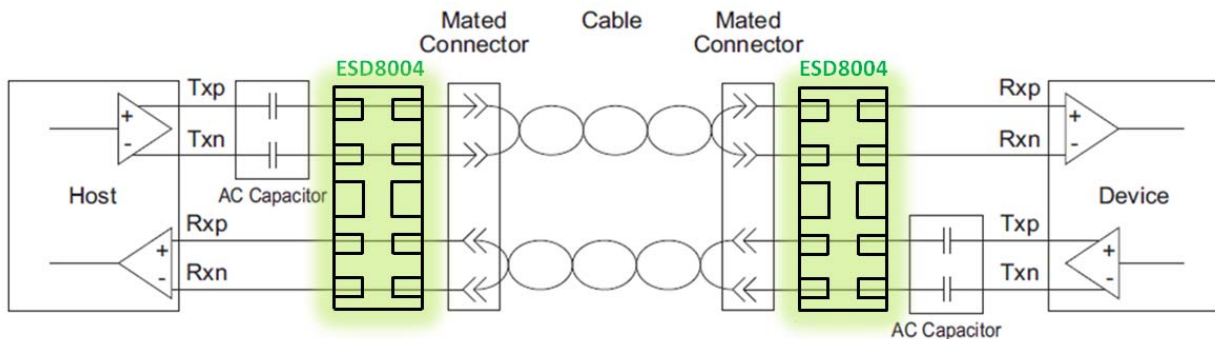

Figure 14. USB 3.0/3.1 Connection Diagram
- ♦ In USB 3.0 applications, the ESD protection device should be placed between the AC coupling capacitors and the I/O connector on the TX differential lanes as shown in Figure 14. In this configuration, no DC current can flow through the ESD protection device preventing any potential